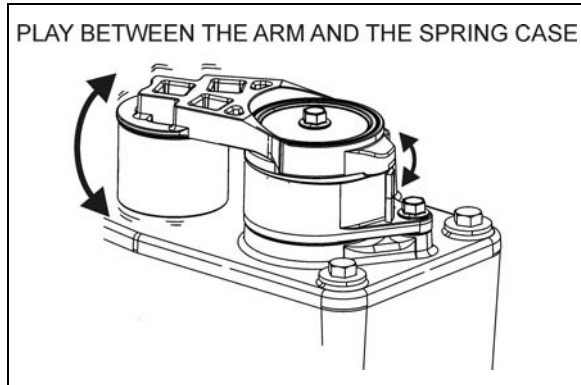

FIGURE 22: CHECKING BUSHING WEAR
2. Pry the automatic belt tensioner arm and check for a play between the arm and the spring case (**FIGURE 22**).